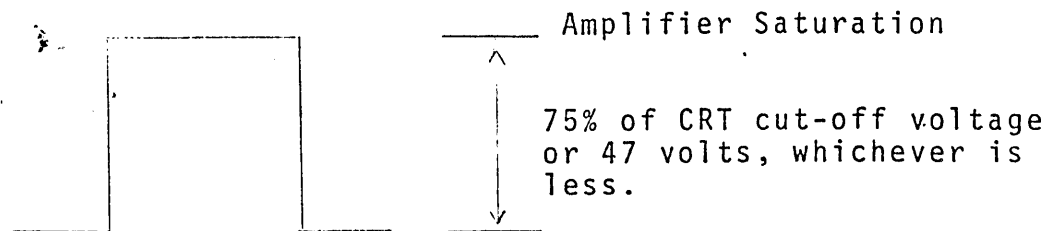

Figure 1. Z-axis gain and Offset Adjustment
- i. Adjust the Z-axis offset (A5R19) such that the positive portion of the pulse is just equal to the maximum Z-axis output, maintaining the same peak-to-peak amplitude obtained in step h. (See figure 1)